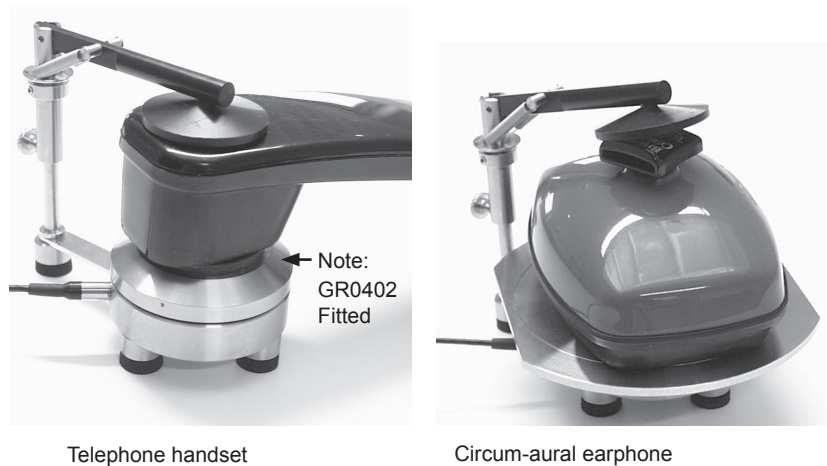

Fig. 1.5 Some examples of mounting the earphone on the test jig
- 3) Mounting the earphone on the test jig (see examples shown in Fig. 1.5)